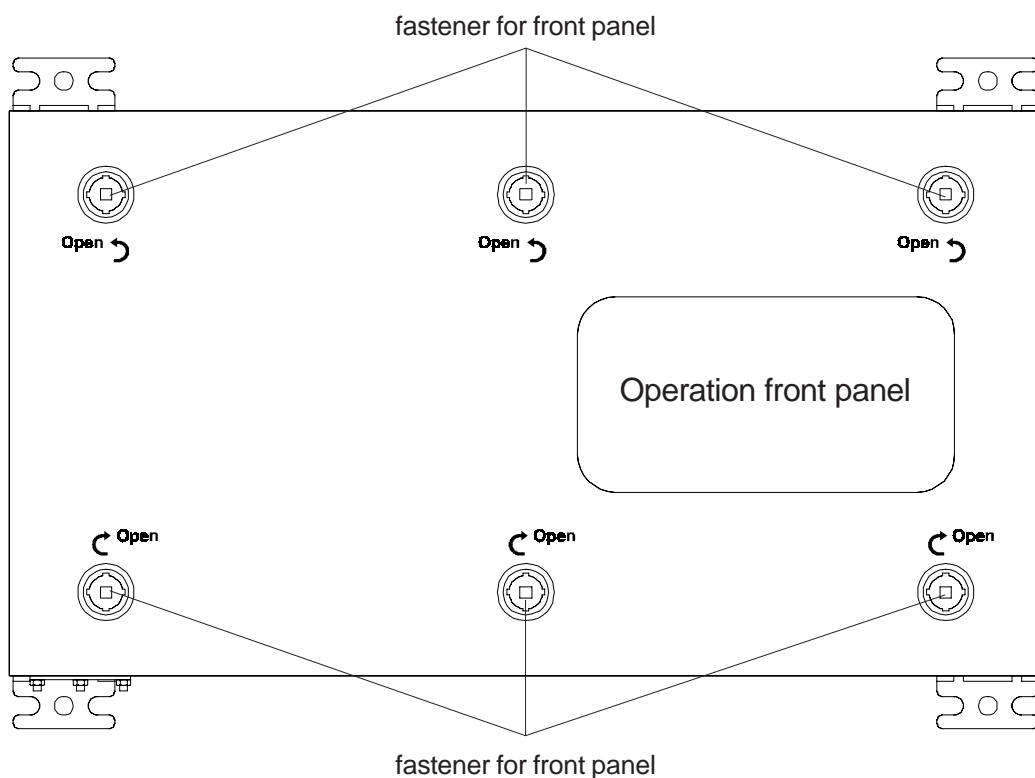

Fig. 21-1: BINOS® 100 F (Field housing) (fastener for front panel)
- Open all 6 fasteners with a square key (Fig. 21-1)